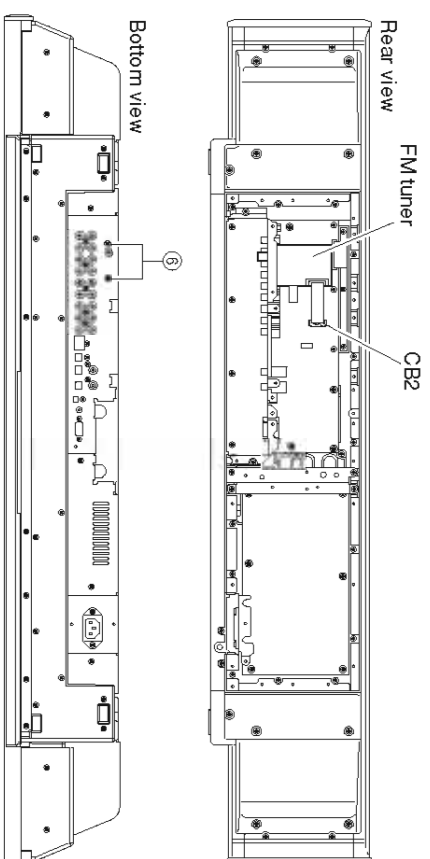

Fig. 3
- Remove 2 screws (⑧). (Fig. 3)
- Remove CB2. (Fig. 3)
- Remove the FM tuner. (Fig. 3)